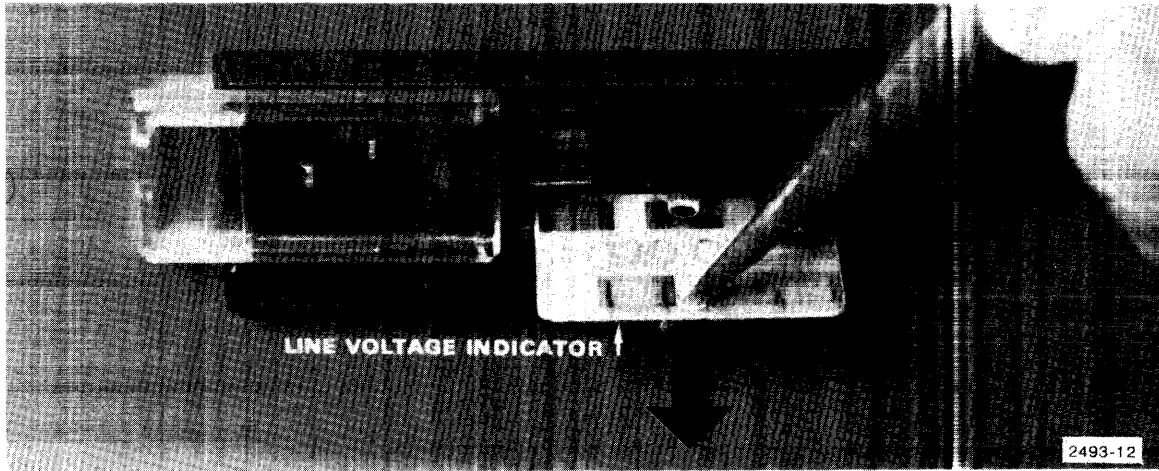

Figure 3-9. Removing line voltage selector card.
3. Remove line voltage selector card using pliers or pointed object (Figure 3-9).